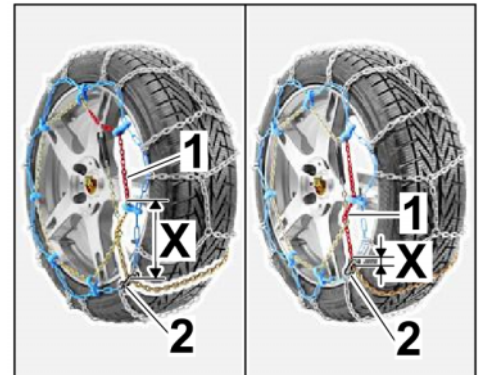

Figure 12
- The area marked in red on the tensioning chain must be pulled completely through the slot on the locking plate. The distance between the area marked in red and the slot on the locking plate (dimension X ⇒ *Figure 12 -X-*) can vary depending on the tire size.